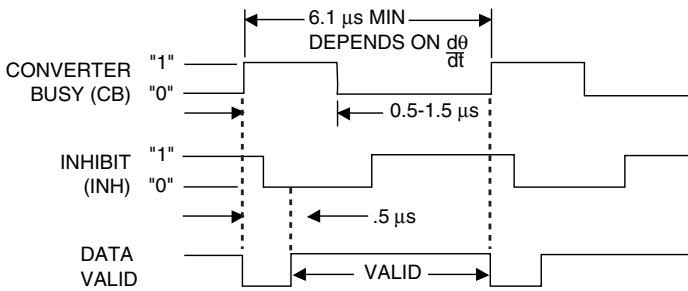

FIGURE 2. SDC-630/632/634 TIMING DIAGRAM
FIGURE 2 shows the timing waveforms of the converter. Whenever an input angle change occurs, the converter changes the digital angle in steps of 1 LSB, and generates a converter busy impulse (CB). The CB is a positive pulse 0.5 to 1.5µsec long. Data changes on the leading edge of the CB pulse, and data can be transferred 0.5µsec after the leading edge.